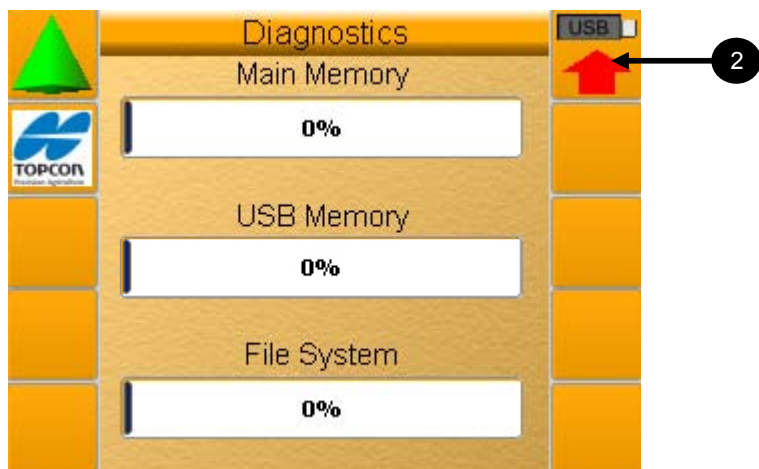

Figure 11-2. Back Up all Job, Boundary and Guidance Pattern Files
2. Select  to backup all your Job, Boundary and Guidance Pattern Files to your thumbdrive (figure 11-2).